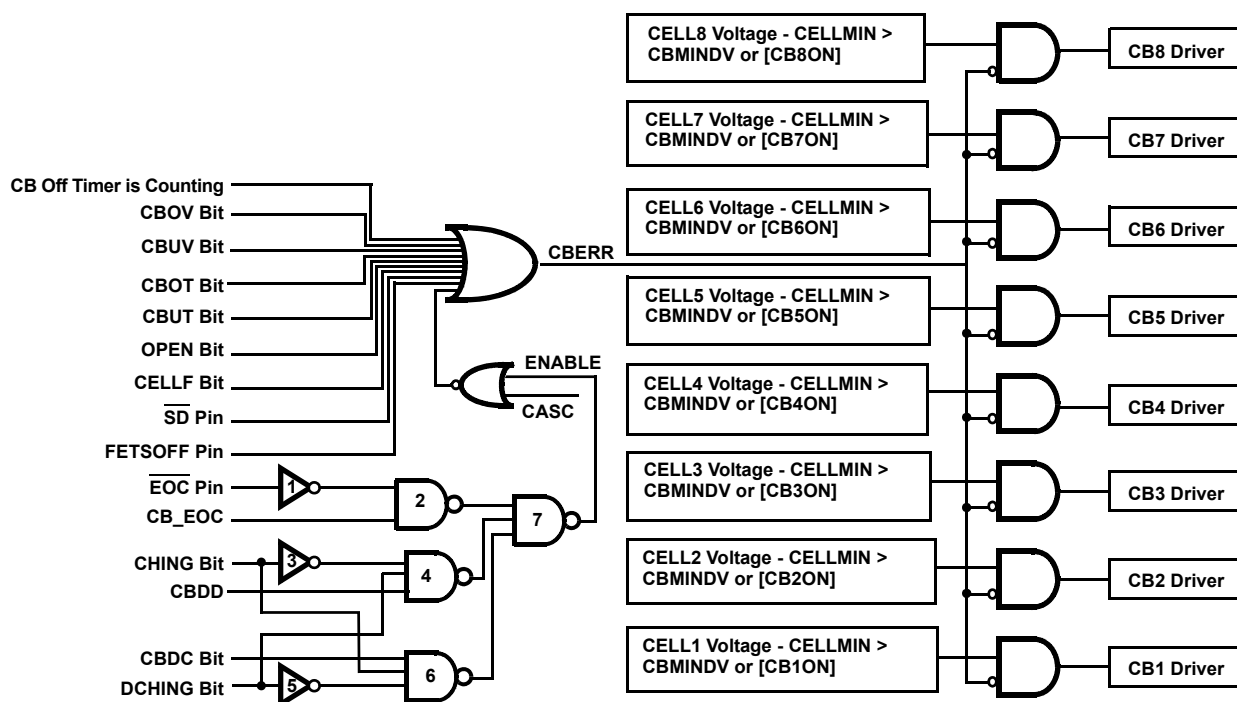

Figure 62. Cell Balance Operation
- Any combination of the CBDD, CBDC, and CB\_EOC bits can be used to enable or disable balancing in one, two, or all three of the possible cell balance conditions (charging, discharging and end-of-charge, see Figure 62 and Table 77).